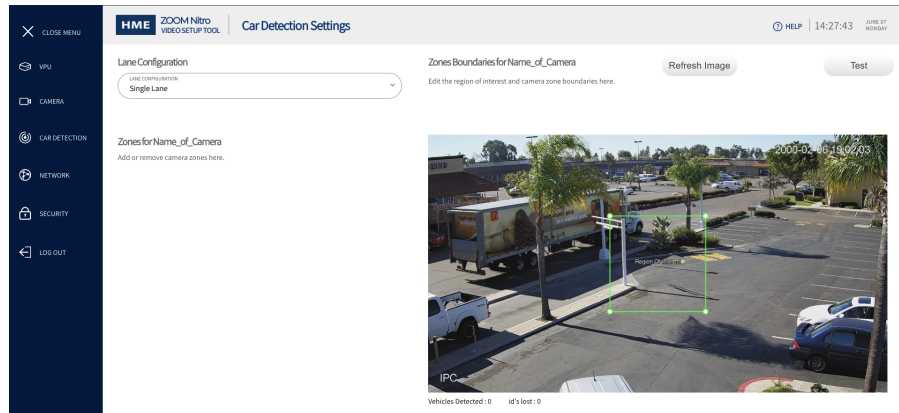

Fig. 6.2
2. In the Camera Preview window, the image will appear with a green bounding box in the middle. This box represents your ROI. You will now need to adjust the size and shape to define the ROI you wish the camera to focus on in the image. See Fig. 6.2